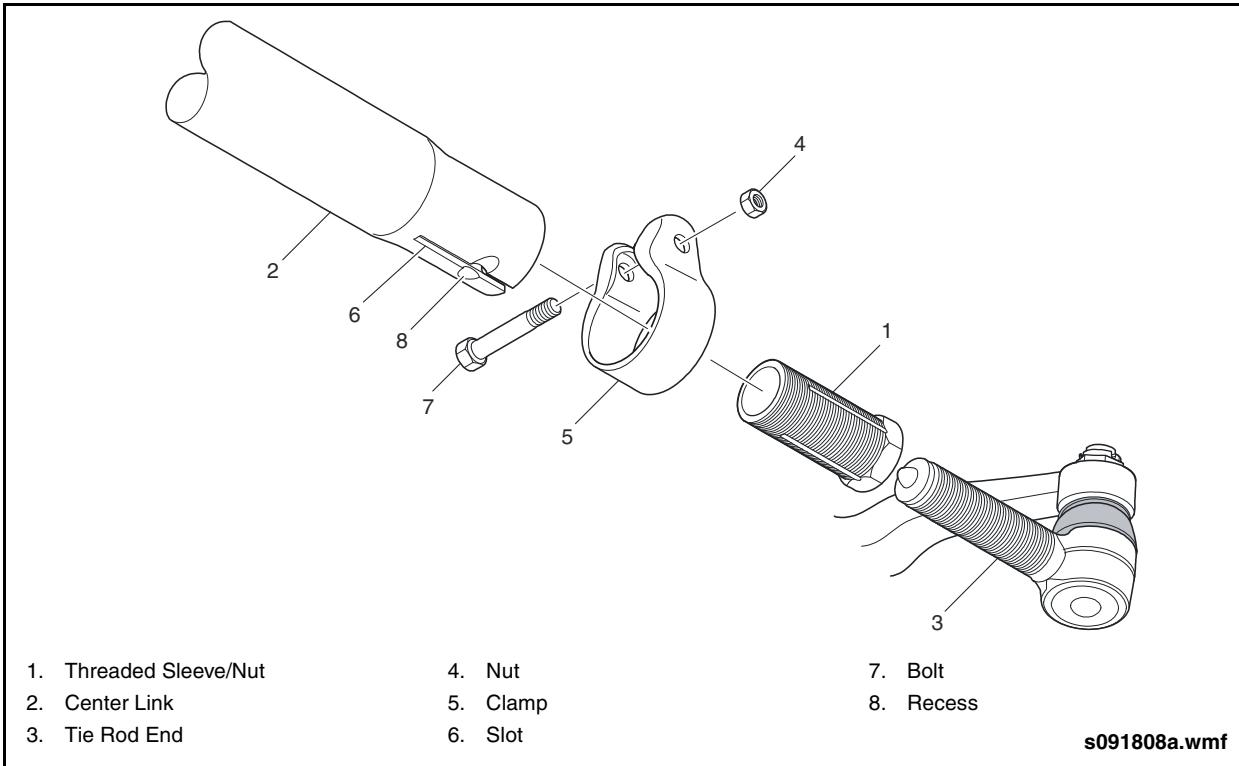

Fig. 1-21: Center Link Tie-Rod End
6. Ensure center link tie rod end clamp is correctly oriented on center link. Ends of clamp must be centered over slot in center link and positioned to allow clamp bolt to pass through machined recess in end of link. See "Fig. 1-21: Center Link Tie-Rod End" on page 19.